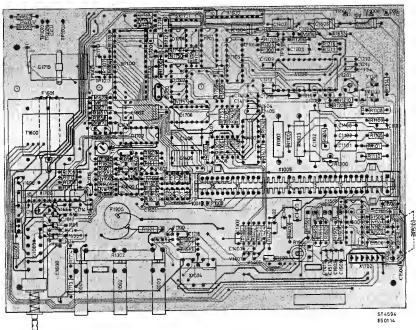

Fig. 1. Main p.c.b., lay-out, component
- Place the mentioned capacitor (the (-) connection is the same, the (+) connections are the two last points of the mains switch) (see fig 1.)